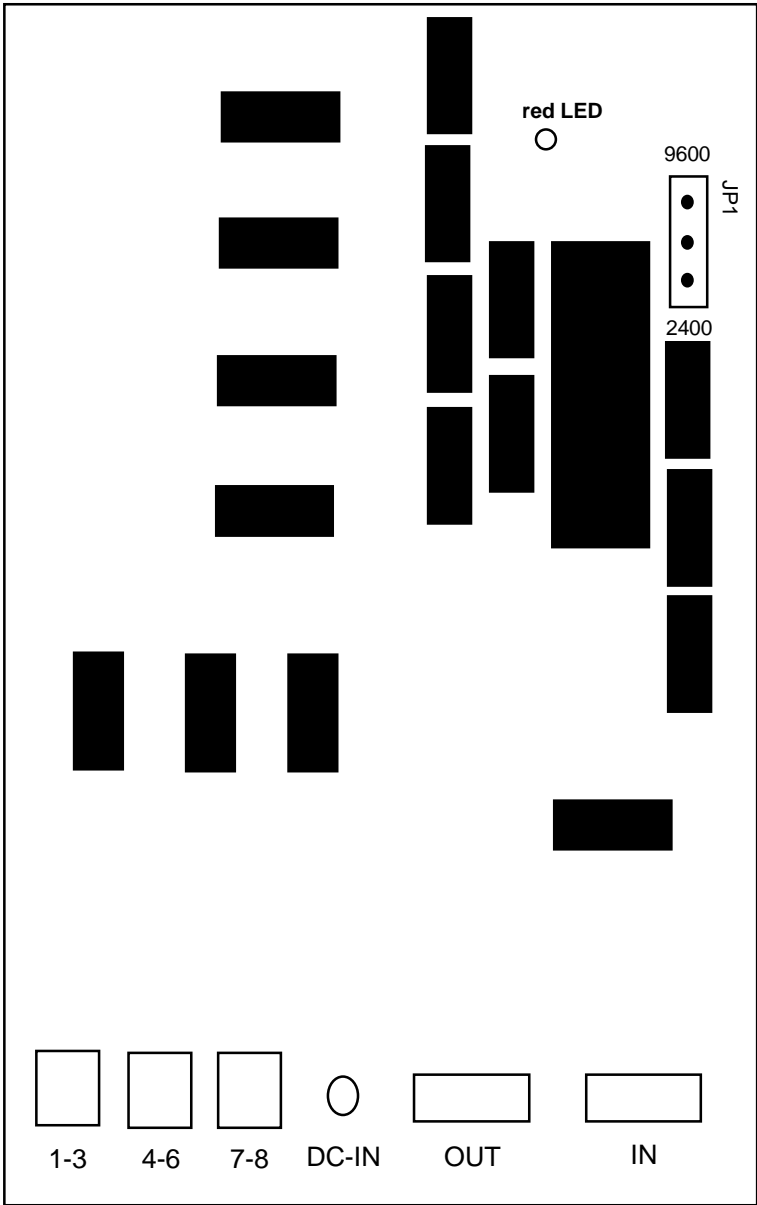
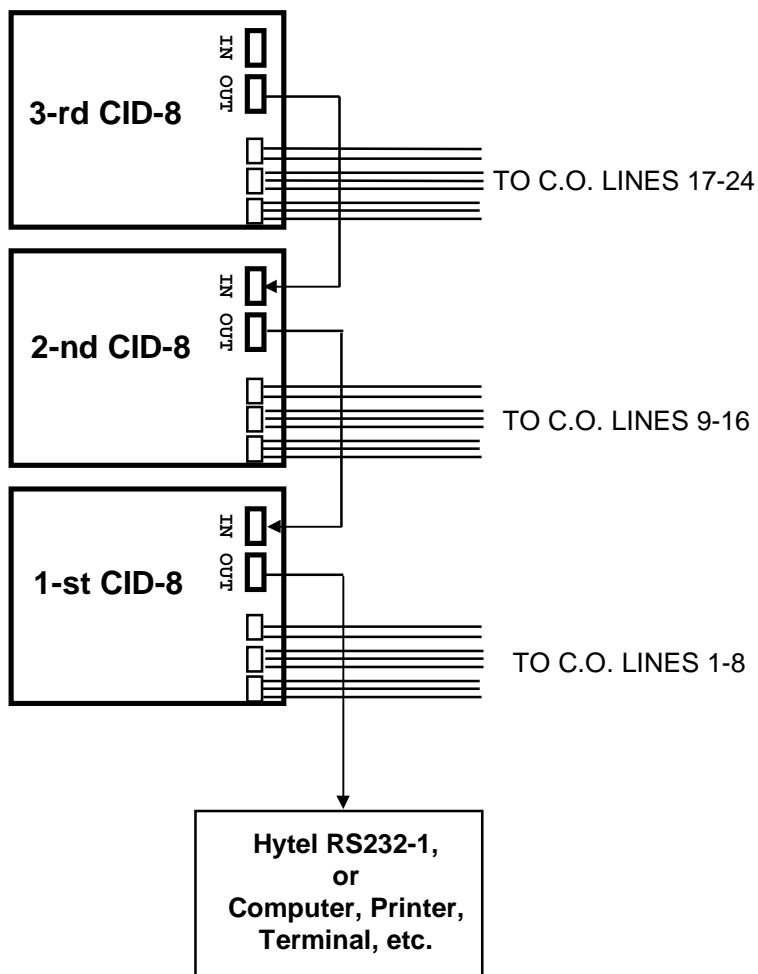

Fig. 1 CID-8 PCB layout diagram
Fig 2. Example of multiple CID-8 connections.
- 1.1.4 There are two DB-9 connectors, labelled "IN" and "OUT" as shown in Fig.1. These connectors are used for RS-232C asynchronous serial communication and can enable up to 12 CID-8's to be connected together.
- 1.1.5 There are three 6-position RJ12C connectors, named with "1-3", "4-6" and "7-8" located in the CID-8 as shown in Fig.1. These are used to directly connect to incoming telephone lines. The first 2 ports provide 3 telephone line connections and the last one provides 2 telephone line connections.
- 1.1.6 There is a 3-position jumper named JP1 in the CID-8 as shown in Fig.1 for selecting the baud rate of RS-232C asynchronous serial communication. The baud rate is selectable between 9600, 4800 and 2400. The other serial parameters are set at 1 start bit, 8 data bits, 1 stop bit and no parity bit and cannot be changed.
- 1.1.7 The power connector, labelled "DC-IN" as shown in Fig.1 provides DC power input connection. CID-8 can be connected directly to the 24V power output terminals of the Hytel KSU with the cord supplied or an optional Power Adaptor is available to connect to a 240V AC mains outlet. The accepted range of DC power input is from 12V DC to 35V DC and polarity is not important.
- 2.3.1 The data speed must be set to 2400. A 3-position jumper, JP2, located in the CID-8 as shown in Fig.1 is used to select the baud rate of RS-232C asynchronous serial communication. JP2 is set for a baud rate 2400 bps as shown:
- 2.5.3 In Fig.2, there are 3 CID-8's connected together to provide 24 lines service. Up to 12 CID-8's can be connected together to share a DTE device. The DTE device is always connected to first CID-8. The corresponding line numbers in the output message as shown in section 1.2 for each CID-8 are listed as follows.
This is a male DB9 connector, labelled with "OUT" in CID-8 as shown in Fig.1. In single CID-8 configuration, it is connected to the KSU or another DTE device for message output. In multiple CID-8 configuration, it is connected to RS-232C input of previous CID-8 for non-first CID-8 as shown in Fig.2. The pin definitions of this connector are listed as following table.
This is a female DB9 connector, labelled with "IN" in CID-8 as shown in Fig.1. and in a single CID-8 configuration, is not used. In multiple CID-8 configuration, it is connected to RS-232C output of next CID-8 for non-last CID-8 as shown in Fig.2. The pin definitions of this connector are listed as following table.